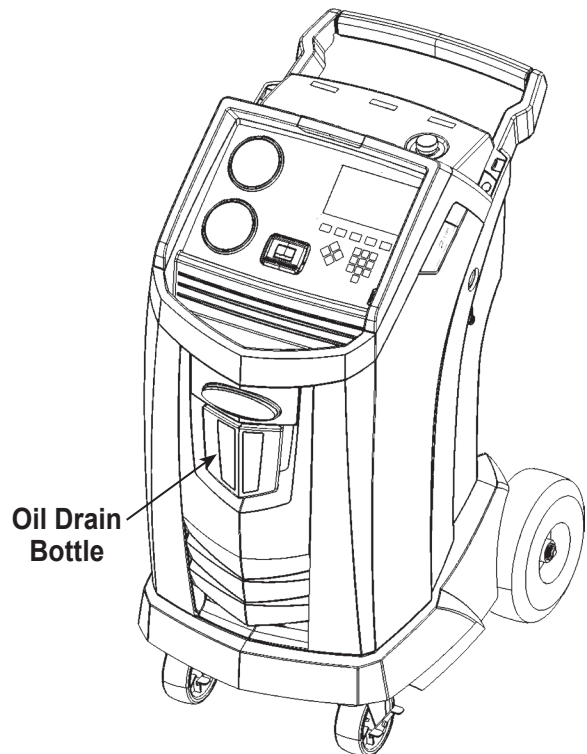

Figure 7
3. Remove the oil drain bottle (see Figure 7) from the Robinair machine. Drain the oil bottle, and dispose of the oil according to applicable regulations. Reinstall the oil drain bottle on the machine.